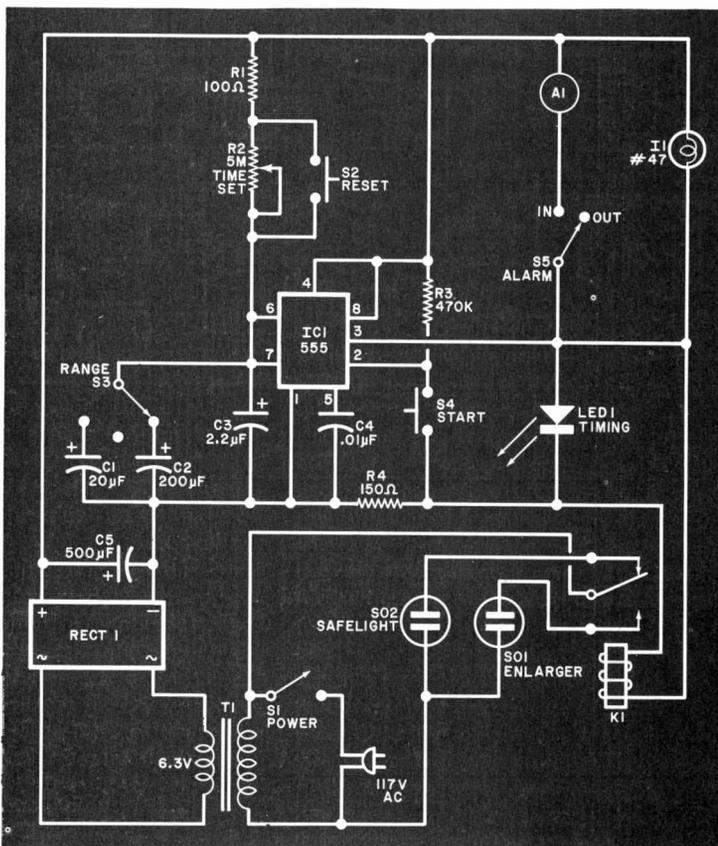

Fig. 1. Basic 555 timer can be adjusted for almost any desired timing ranges. The relay circuit allows timing an enlarger then turning on safelight.
*Note—The following are available for non-commercial use from Radiation Monitoring Devices, Inc., 44 Hunt St. Watertown, MA 02172: complete kit of parts for Fig. 1 for \$85; complete kit of parts for Figs. 1 and 2, including case but no batteries, for \$125. Also available separately: CdTe radiation detector for \$90. Add \$5 for shipping and handling. Massachusetts residents, please add 5% tax. Allow 6 weeks for delivery. Available in U.S.A. only.*
at the output of IC4A, you can add the circuit shown in Fig. 2 to that in Fig. 1. The combination of IC10, IC11, and seven-segment displays DIS1, DIS2, and
Power for the Fig. 1 circuit can be a conventional 9-volt battery or dc power supply. When the Fig. 2 circuit is added, four AA cells in series can be used to power the LED display. *POWER* switch *S1* controls both power sources.
*Fig. 3. Actual-size etching and drilling guides for the two-sided pc board are shown below. Component mounting on the top is at left. Note that the upper portion of the board (containing the audible circuit shown in Fig. 1) can be detached if only that circuit is to be used.*
of the Sink Sentinel is shown in Fig. 1. It is based on a conventional 555 timing circuit (*IC1*). *TIME SET* potentiometer *R2* and *RANGE* switch *S3*, the latter selecting the appropriate range capacitor (*C1* and *C2* shown, but more capacitors can be added, as desired), determine the timing range.
and C values shown in Fig. 1 were set in three ranges. The first and most commonly used for photographic printing and enlarging is from about 3 to 23 seconds; the second from 20 seconds to nearly 3 minutes; and the last from 3 to almost 30 minutes. If desired, the R and C values can be changed to produce any desired timing interval.
An optional enlarger/safelight powering arrangement is provided by sockets SO1 and SO2 and relay K1, as shown in Fig. 1. If you prefer not to have this option, you can eliminate K1 and SO1 and SO2. Assuming you decide to keep this option, when K1 is not energized at the end of a timing cycle, SO2 is powered and can be used to power your safelight. During the timing cycle, K1 is energized, connecting SO1 to the power line for powering an enlarger.